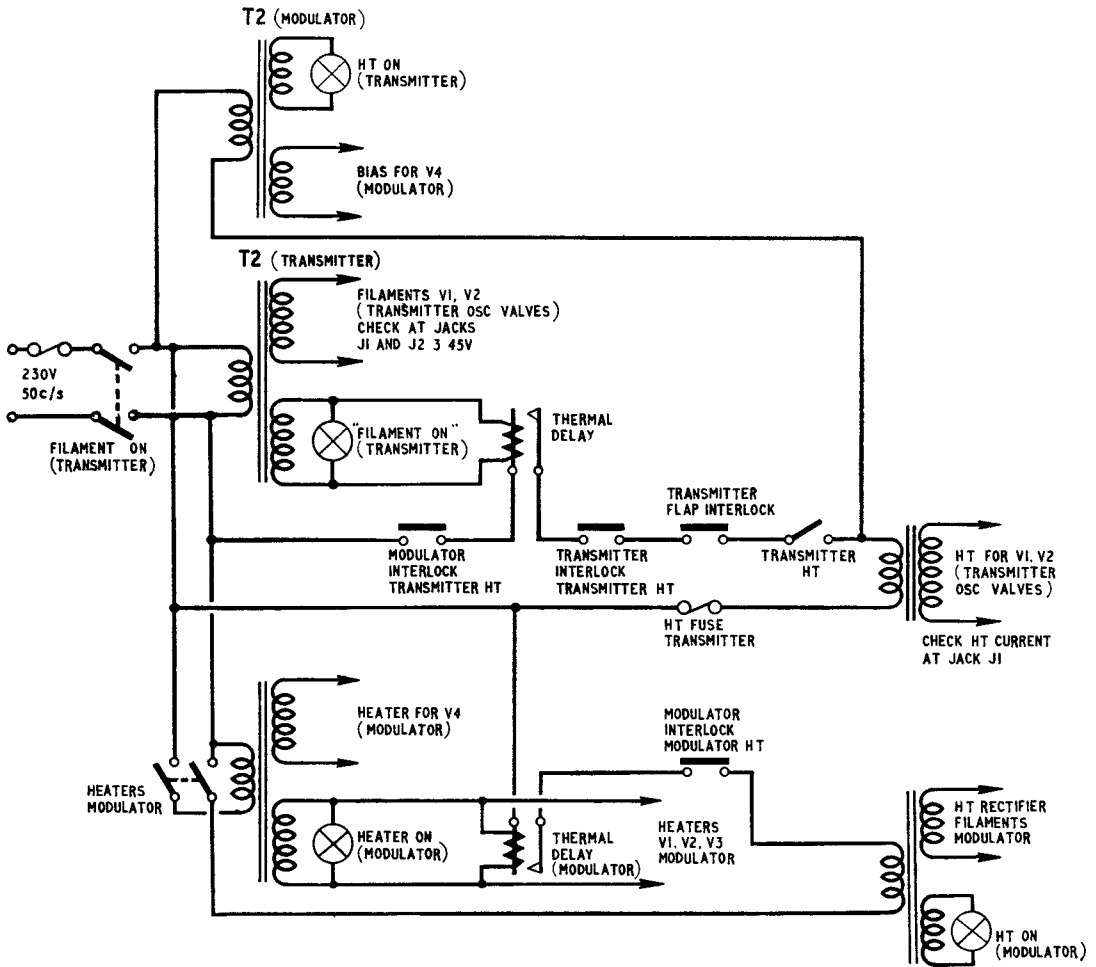

Fig. 39. Transmitter Type T.3117 : control circuit
**125.** When the transmitter is radiating, a blue glow will be observed between the electrodes of the spark gaps in switch unit Type 271. Otherwise monitor Type 33 may be used to check the operation of the transmitter and its modulator as described in para. 18. As the control circuit is rather involved a simplified diagram is given in fig. 39.